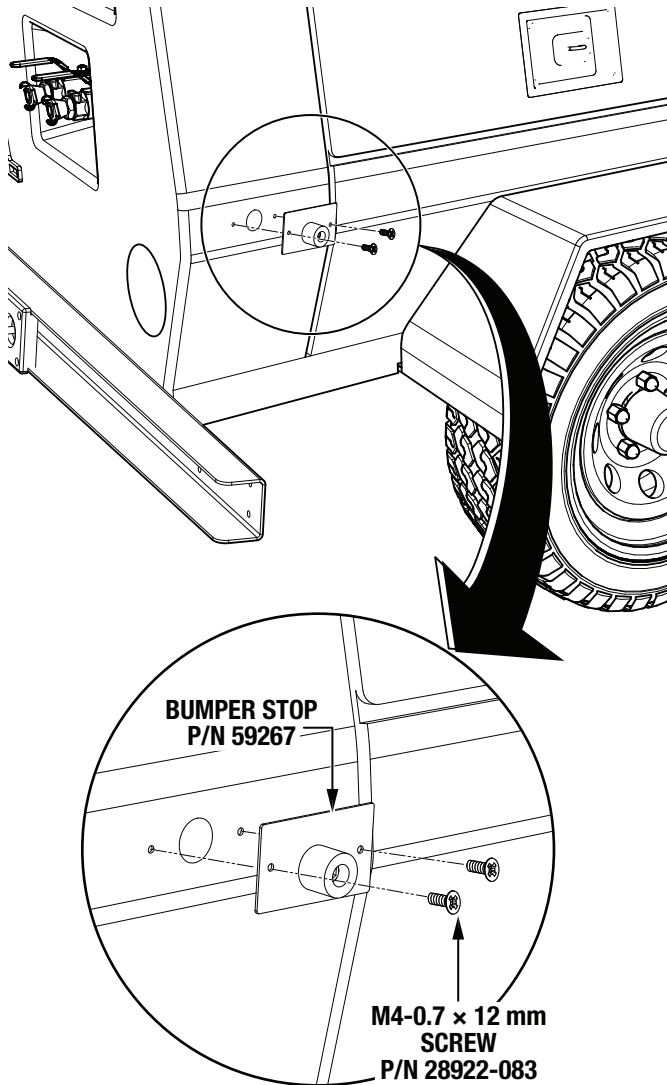

Figure 12. Bumper Stop Installation
1. On the fuel tank side of the air compressor, secure the bumper stop (P/N 59267) to the frame where the rear marker light was removed earlier with two M4-0.7 × 12 mm screws (P/N 28922-083). See Figure 12.